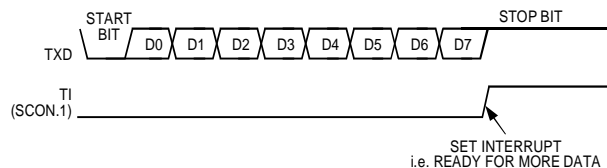

Figure 51. UART Serial Port Transmission, Mode 0.
Transmission is initiated by writing to SBUF. The 'write to SBUF' signal also loads a 1 (stop bit) into the ninth bit position of the transmit shift register. The data is output bit by bit until the stop bit appears on TXD and the transmit interrupt flag (TI) is automatically set as shown in Figure 51.